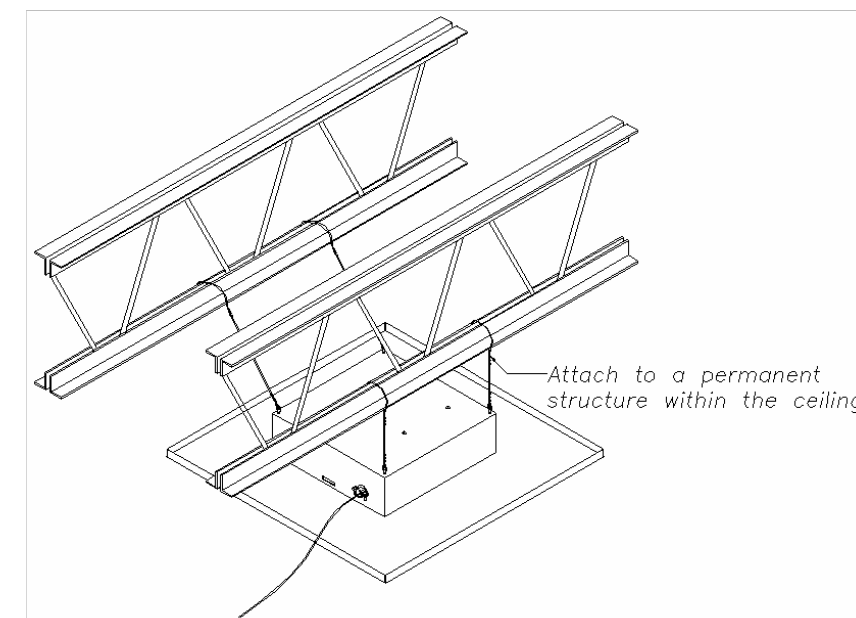

Figure 4
Step 5 – Use minimum 12-gauge grid wire to secure the *access point enclosure* in the ceiling grid. Attach one end of the wire to the *eyebolts* and the other end to a permanent structure within the ceiling such as a ceiling joist (Ref. *Figure 4*).
Step 6 – Run the data cable through the conduit connectors located on sides of the *access point enclosure*. Pull the data cable through the conduit connector far enough to allow attachment to the access point (8" - 10"). Snap the firestop grommet on to the cable and slide it inside the conduit connector (Ref. *Figure 4*).